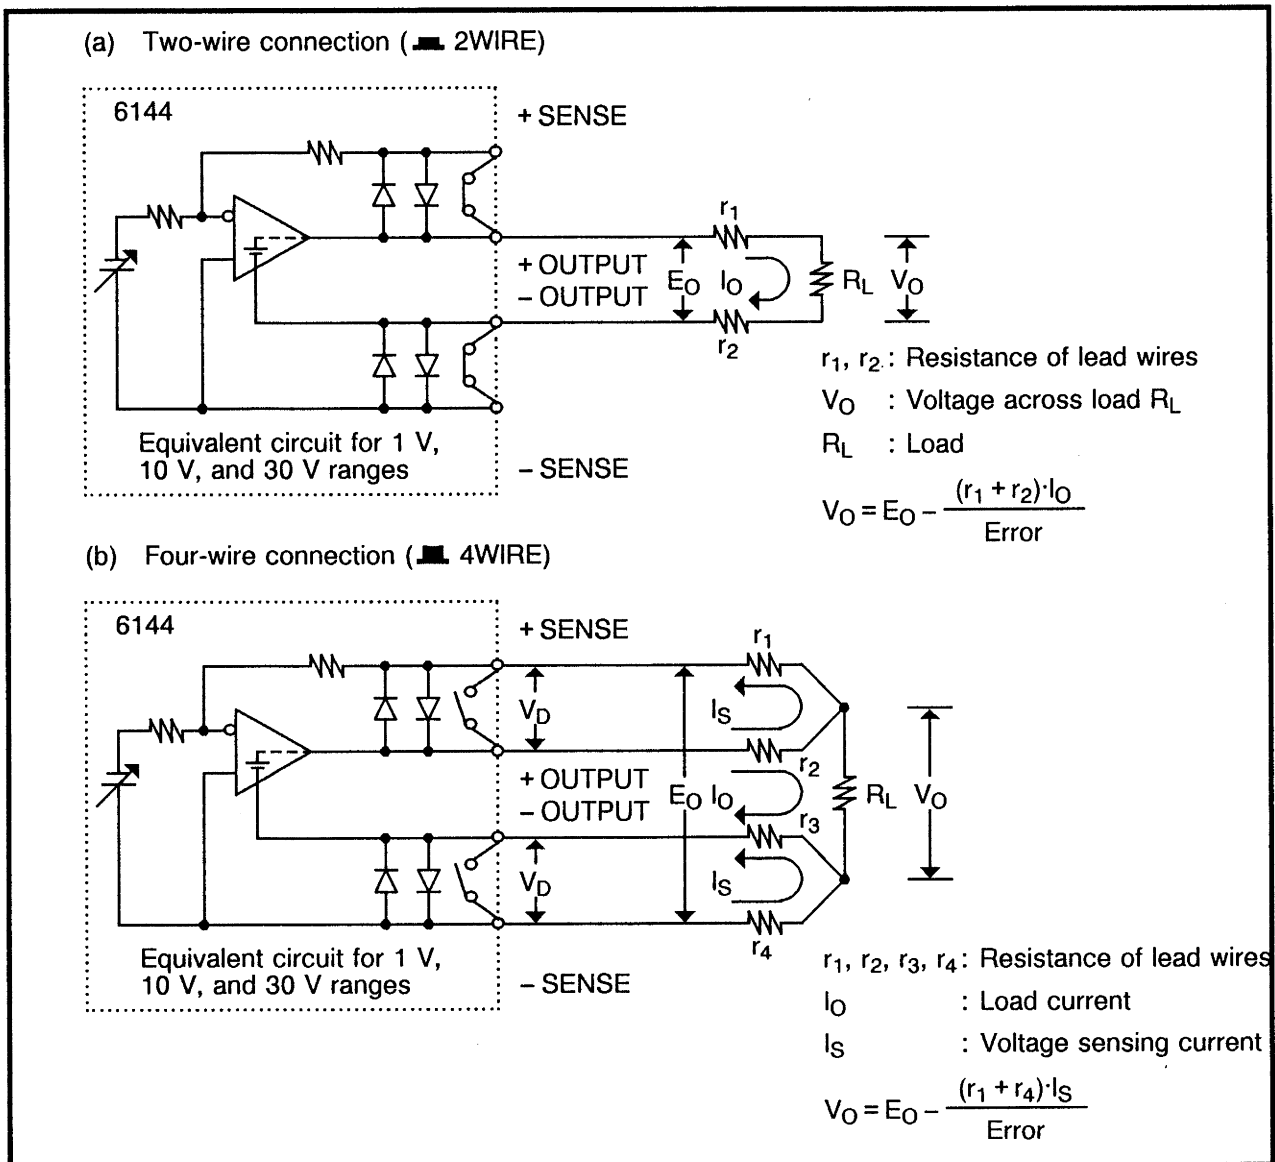

Figure 3-2 Equivalent Circuits
Figure 3-2 shows the equivalent circuits of two-wire connection (**■** 2WIRE) and four-wire connection (**■** 4WIRE).
1. In Figure 3-2, $V_O = E_O - (r_1 + R_4) I_S$ is satisfied only when V_D does not exceed 0.3 V.